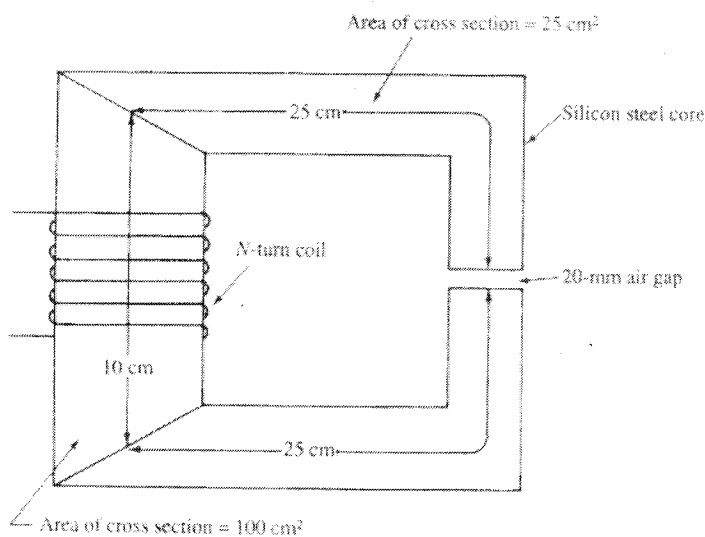

FIG 3
- (b) A magnetic circuit with an air-gap is shown in FIG3. How many turns should the exciting coil have to establish a 1.0 Wb/m^2 flux density in the gap. The maximum allowable current in the coil is 10 A. The core has a B-H curve of FIG 2. Neglect any fringing of the magnetic field at the air-gap [8 marks]